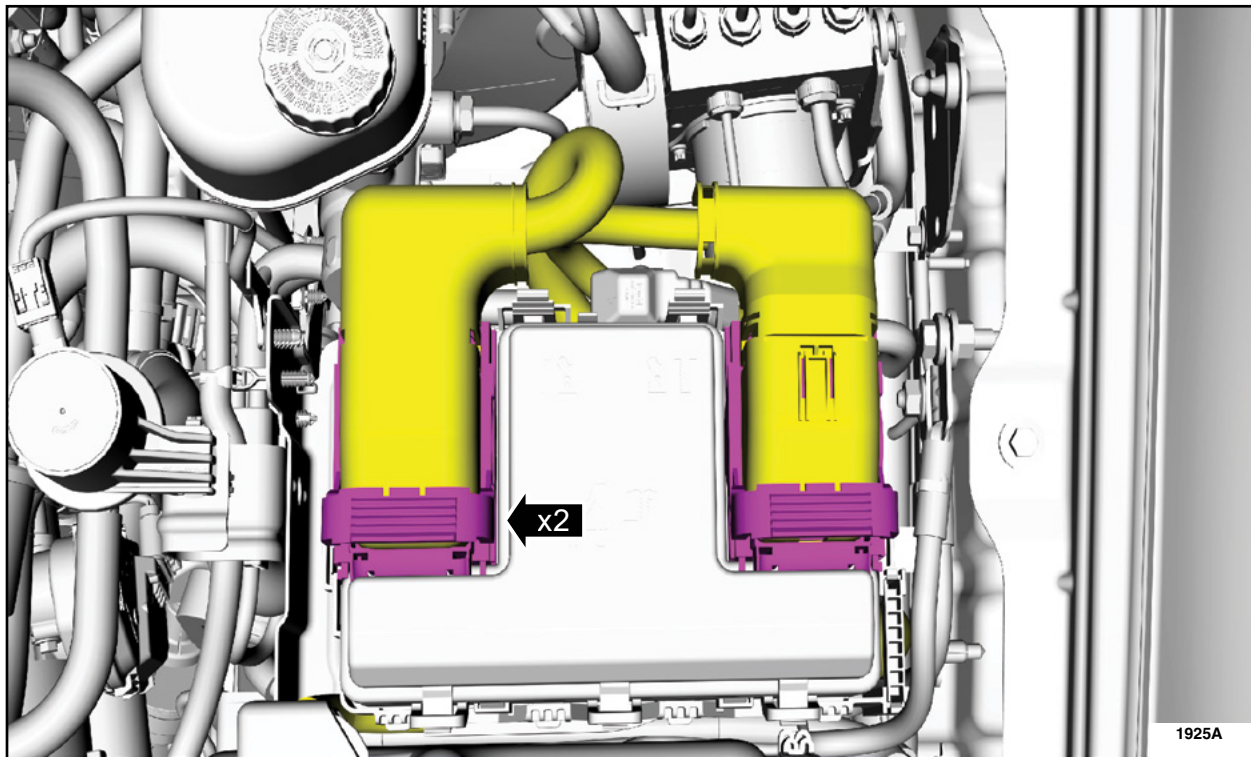

FIGURE 1
2. Disconnect the electrical connectors on the battery junction box. See Figure 1.